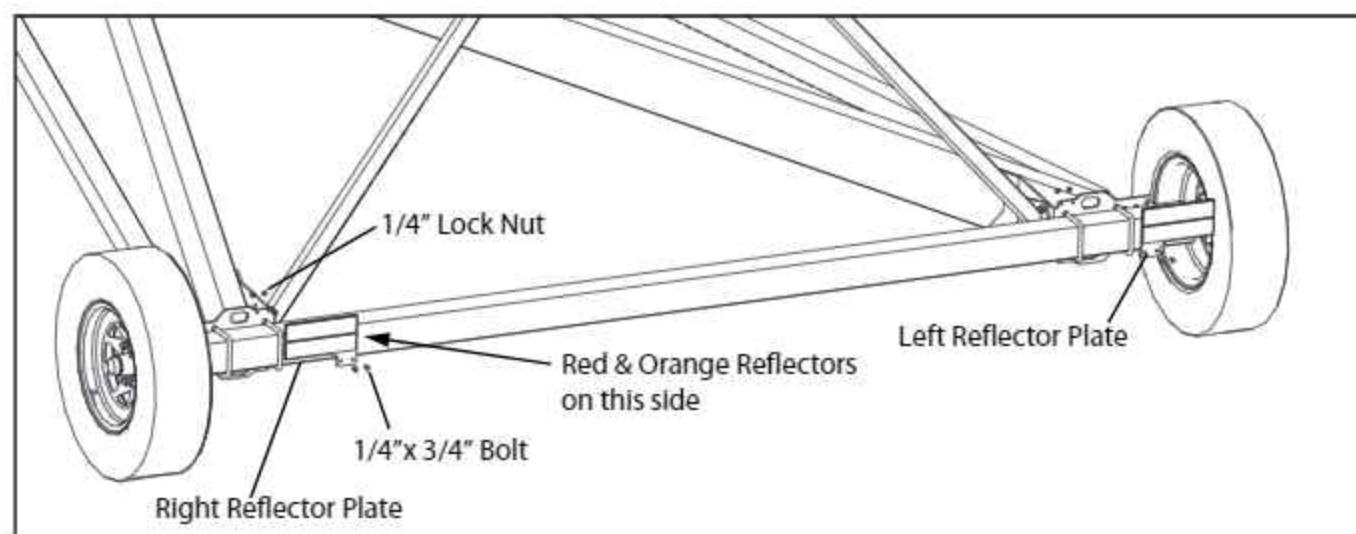

FIG. 3-23. Reflector Plate Installation
10. Install the Left And Right Reflector Plates to the lift arm mounts using two $\frac{1}{4}$ "x $\frac{3}{4}$ " bolts and lock nuts in each. Make sure the plates are oriented as shown in Fig. 3-23.